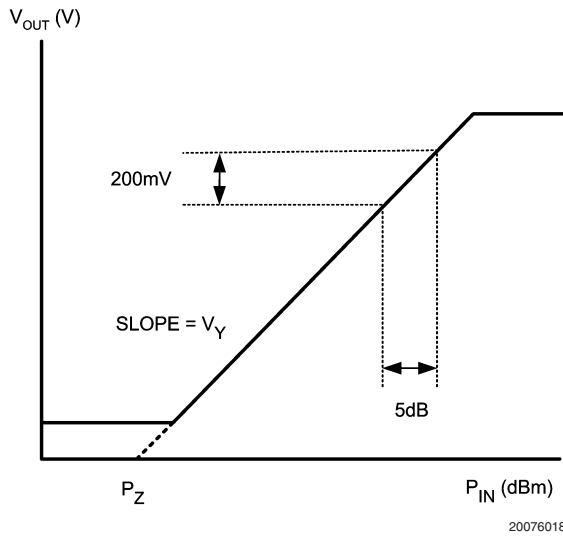

FIGURE 5.  $V_{OUT}$  vs. RF Input Power  $P_{IN}$
where  $V_Y$  is the slope of the detection curve (Figure 5) and  $\mu$  is the modulation index. Equation (5) can be reduced to:
A further understanding of the equation above can be achieved via the knowledge that the output voltage  $V_{OUT}$  of the LMV225/LMV228 is linear in dB, or proportional to the input power  $P_{IN}$  in dBm. As discussed earlier, CDMA has a modulation in the order of 5 to 6 dB. Since the transfer is linear in dB, the output voltage  $V_{OUT}$  will vary linearly over about 5 to 6 dB in the curve (Figure 5).